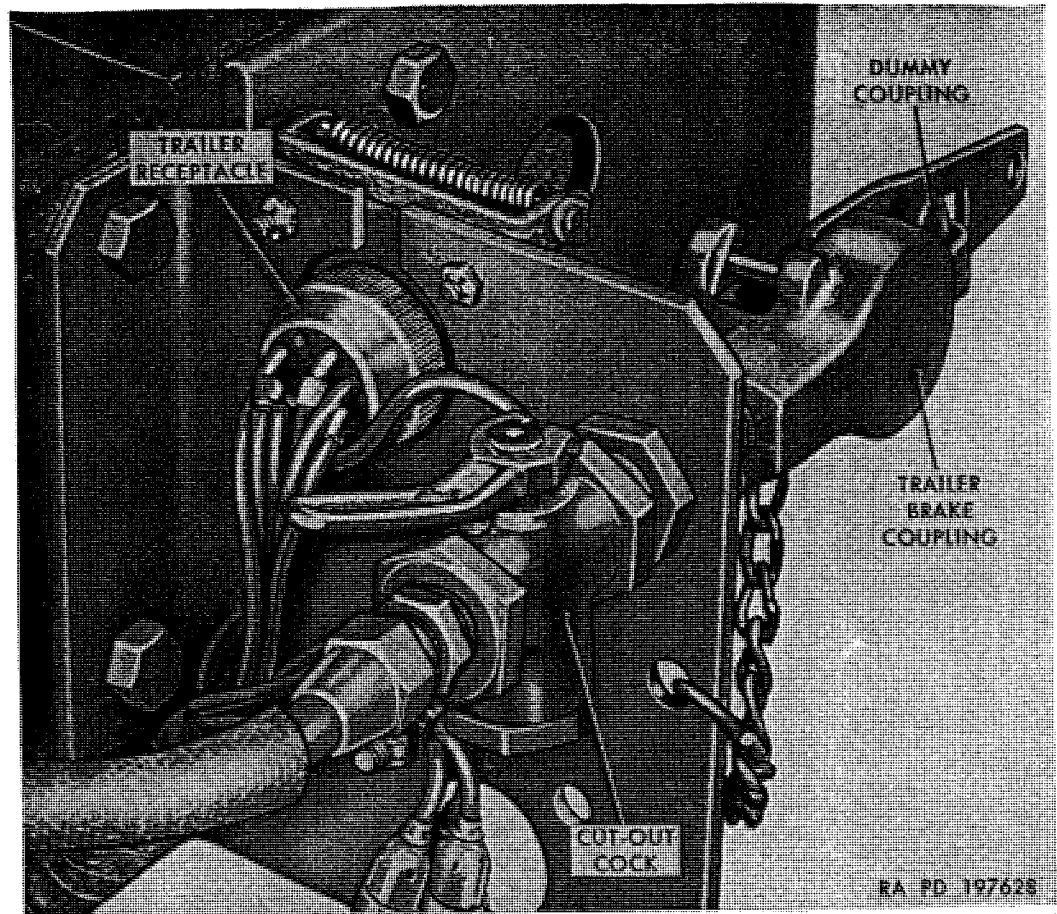

Figure 257. Trailer brake coupling and cutout cock installed at rear of frame (left side shown).
b. Trailer Brake Coupling Replacement (fig. 257 or 258)
- (1) *Removal.* Cutout cock must be closed. Remove dummy coupling from trailer coupling. Unscrew coupling from cutout cock connector.
- (2) *Installation.* Coat threads of cutout cock connector sparingly with plastic-type gasket cement. Thread trailer coupling onto connector and tighten. Assemble dummy coupling to trailer coupling.
d. Trailer Brake Cutout Cock Replacement (fig. 257 or 258).
- (1) *Removal.* Exhaust air pressure from system before removing cutout cock at trailer brake EMERGENCY line coupling. Disconnect air line from cutout cock. Unscrew cutout cock from connector.
- (2) *Installation.* Coat threads of cutout cock connector with plastic-type gasket cement. Thread cutout cock onto connec-